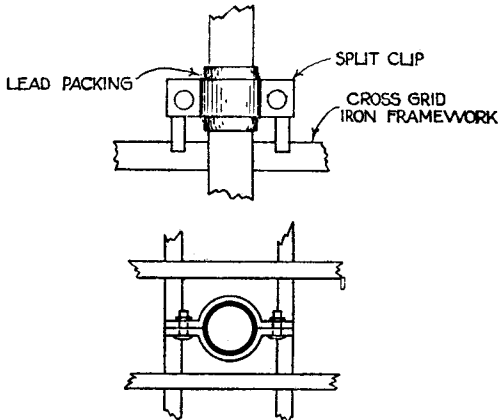

Fig. 2.
*i.e.*, lead strips sweated to cable sheaths. Where the number of cables is very large, it may be necessary to provide a special iron framework with cross bars supporting split clips attached to each cable. Lead packing is placed between the clip and the cable sheath and the clips secured to the cable by screwing up a bolt and nut. (See Fig. 2.)